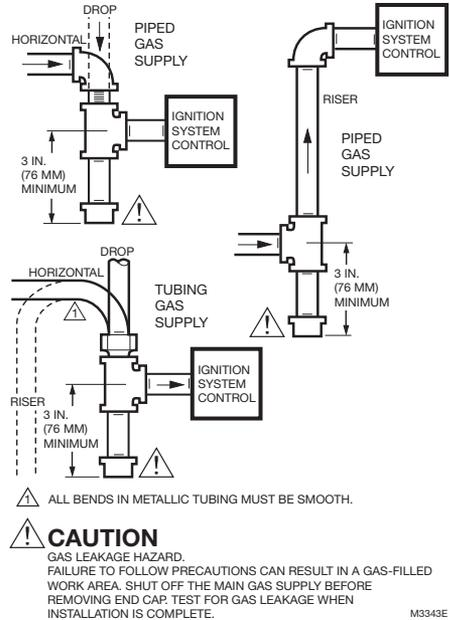

Fig. 3. Sediment trap installation.
3. Install a sediment trap in the supply line to the ignition system control as shown in Fig. 3.